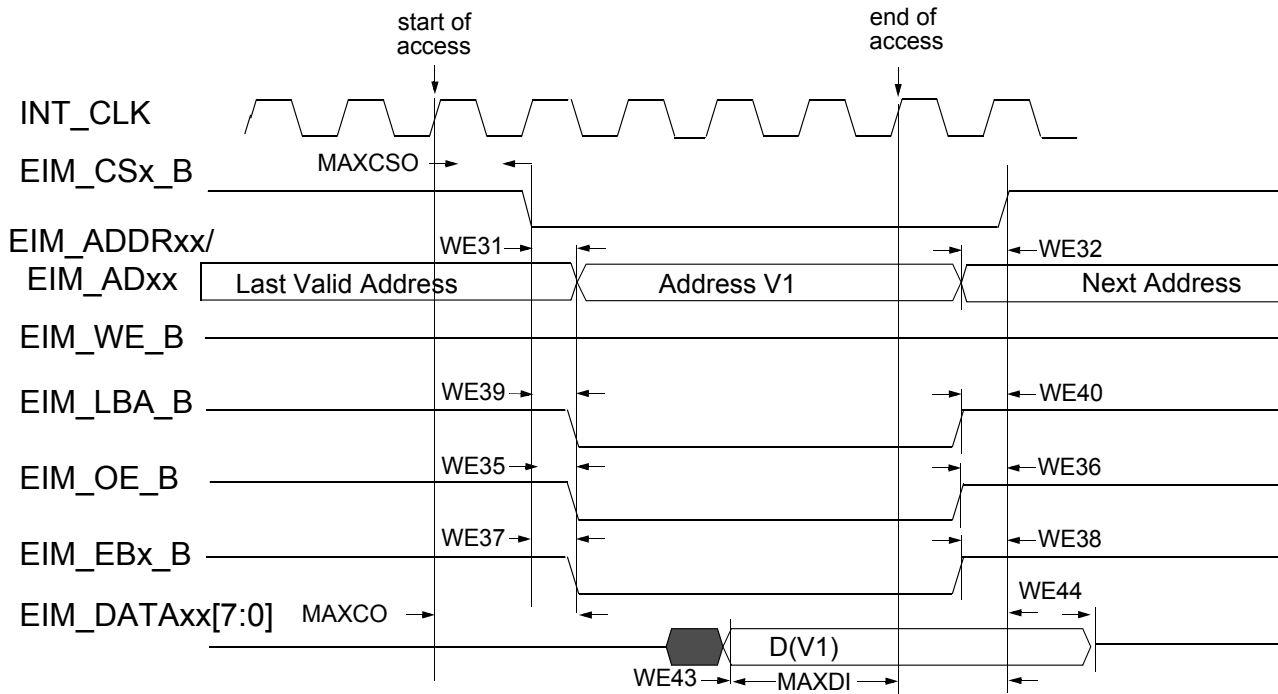
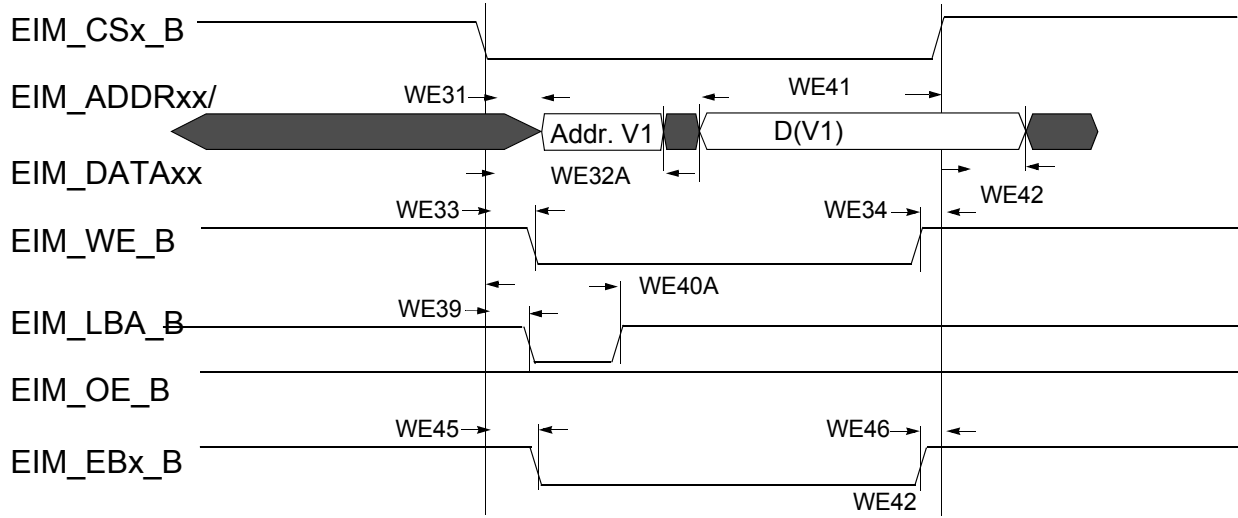
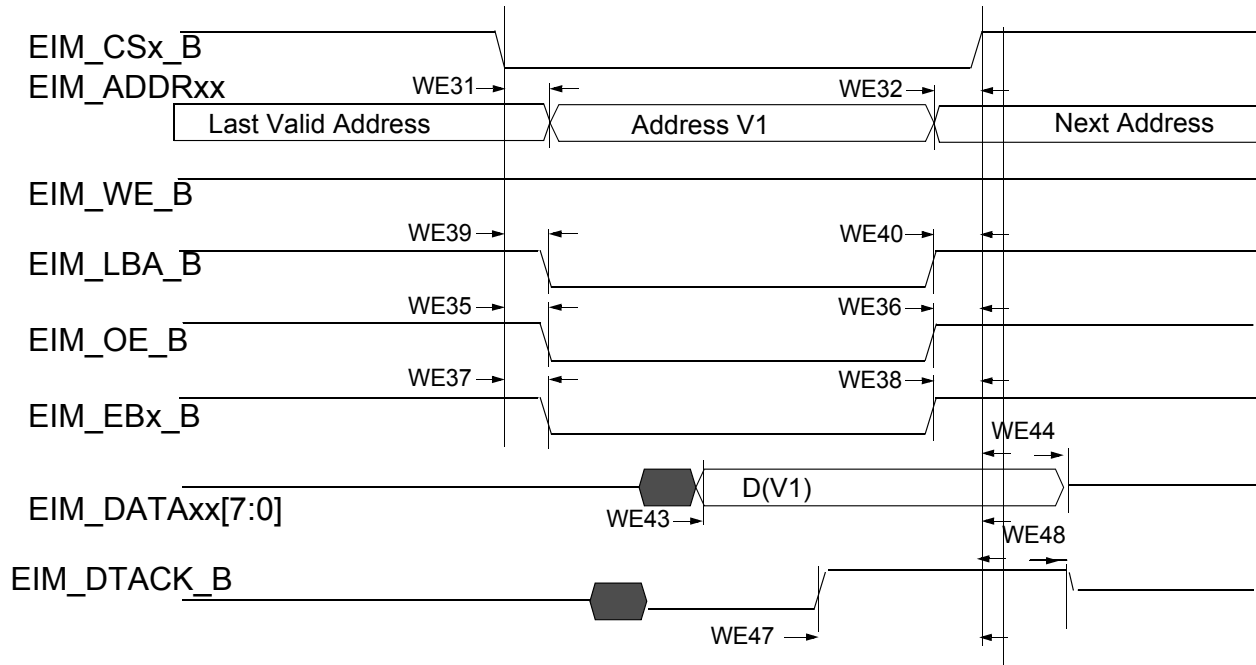

Figure 16. Asynchronous Memory Read Access (RWSC = 5)
Figure 19. Asynchronous A/D Muxed Write Access
Figure 20. DTACK Mode Read Access (DAP=0)
Figure 16 through Figure 20, and Table 39 help you determine timing parameters relative to the chip select (CS) state for asynchronous and DTACK EIM accesses with corresponding EIM bit fields and the timing parameters mentioned above.
Asynchronous read & write access length in cycles may vary from what is shown in Figure 16 through Figure 19 as RWSC, OEN and CSN is configured differently. See the *i.MX 6Solo/6DualLite Reference Manual (IMX6SDLRM)* for the EIM programming model.